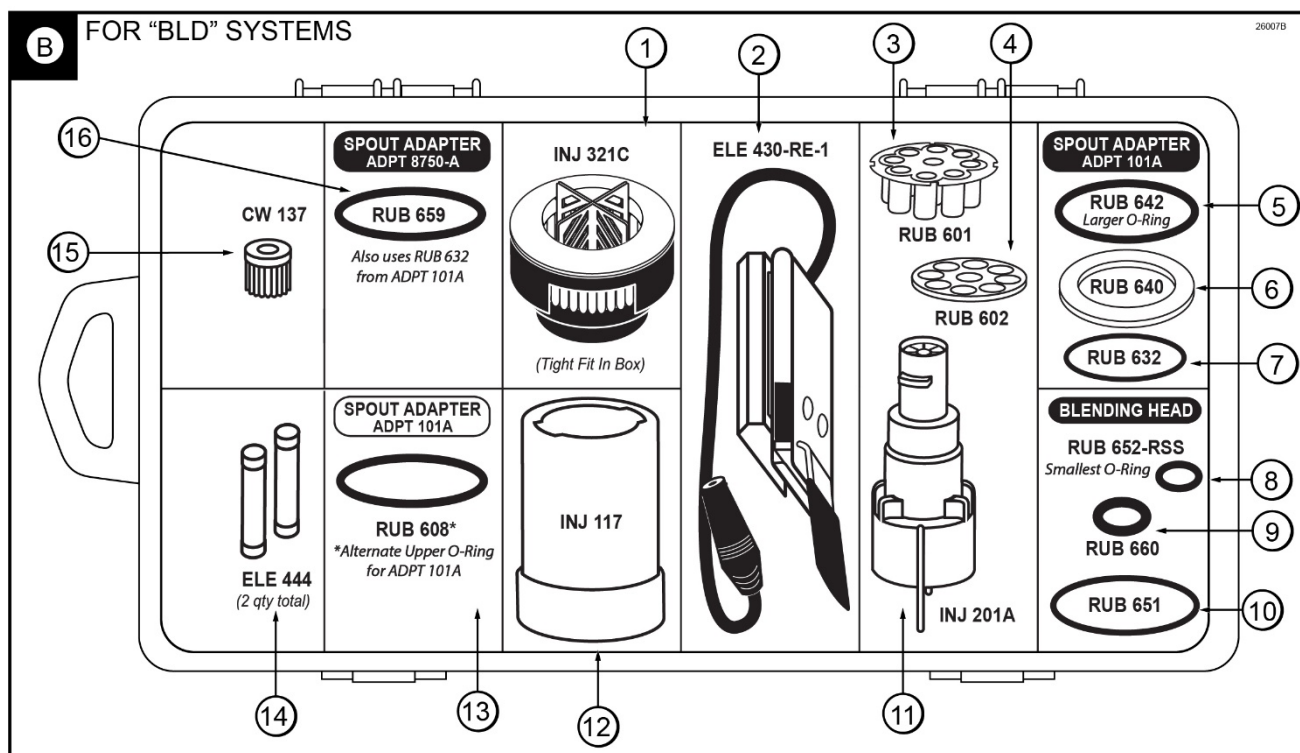

Figure 8B
**“BLD” Spare Parts Kit (See Figure 8B)**